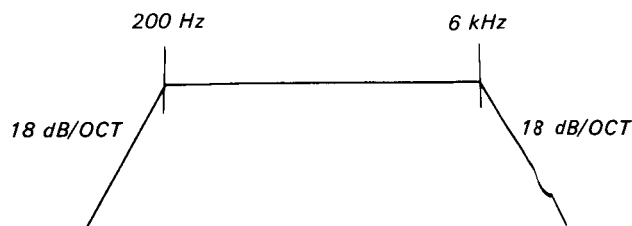

Fig. 8-43
*1: The value when a distortion measuring filter (Fig. 8-43.) is used and that when the filter is not used is less than 1.0% .